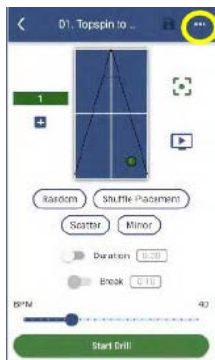

Figure 3-31
3. In the upper right corner of the Drill Edit screen, you will find a menu that is accessed by touching the [...] button. Press that button (Figure 3-31)